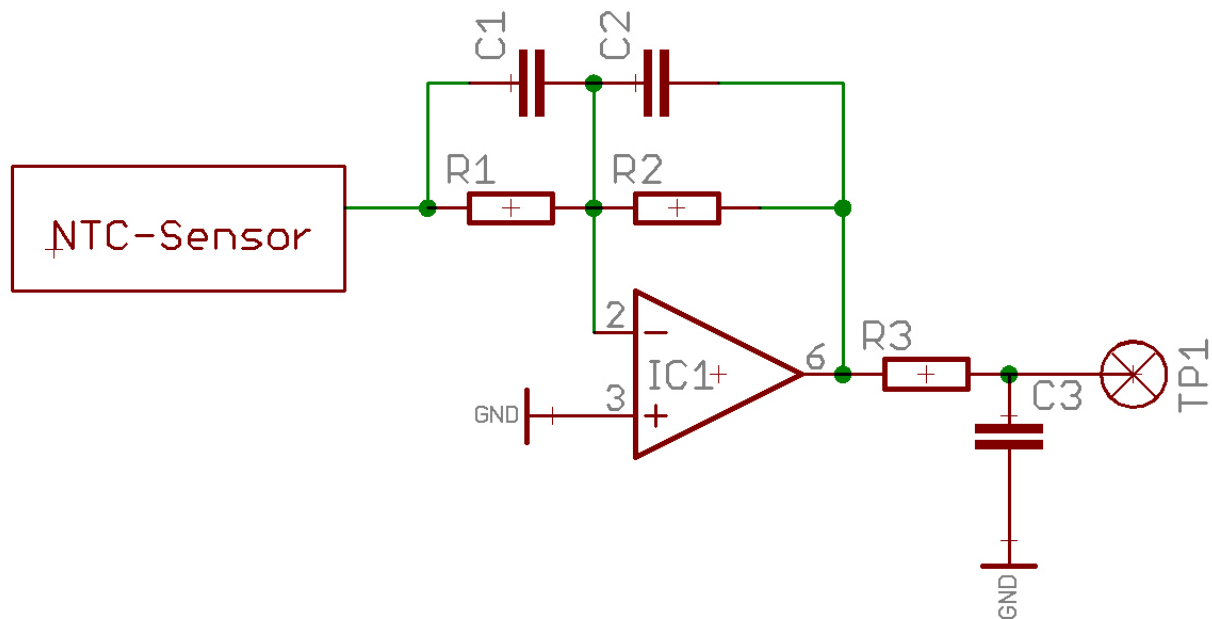

Figure 2
In order to extend the FP07 signal band width, an additional circuitry is introduced (figure 2). The output of this temperature sensor **T1= NTC** removes the first low pass in the FP07 signal response.
- **NTC** is the circuitry described in figure 2 and contains the electronic for the FP07 band width extension. The frequency response of the NTC output is quite linear even beyond the FP07 cut off frequency.